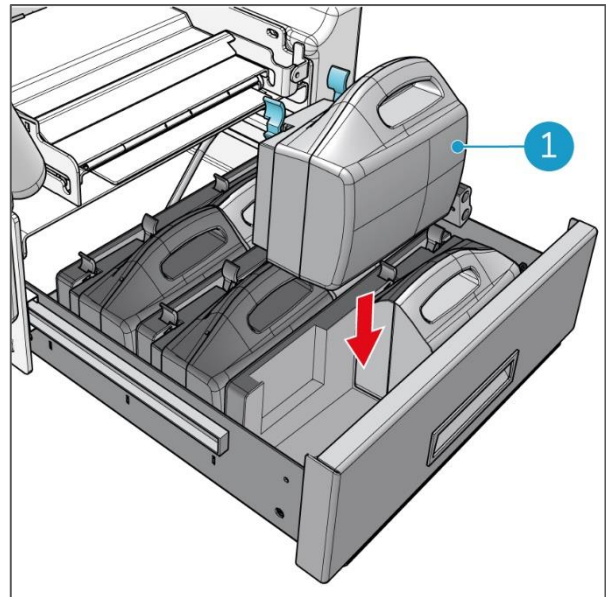

Figure 18
4. Place the batteries in the battery drawer. When they "click", they are locked into place (Figure 18, pos 1).